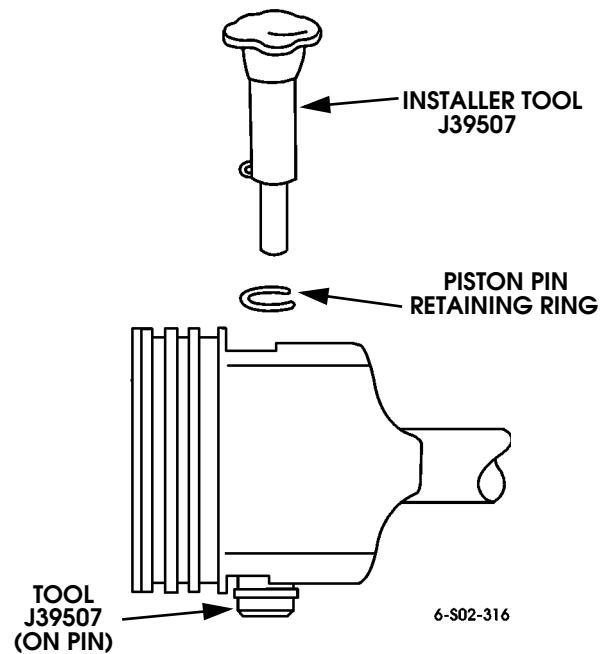

Figure 2-145: Positioning Pin for Installation of First Retaining Ring
- b. Install tool J39507 on one end of piston pin (Figure 2-145).